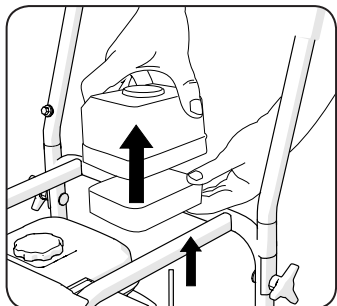

Fig 22
- Remove the Air Filter Element from the housing. (Fig. 22)